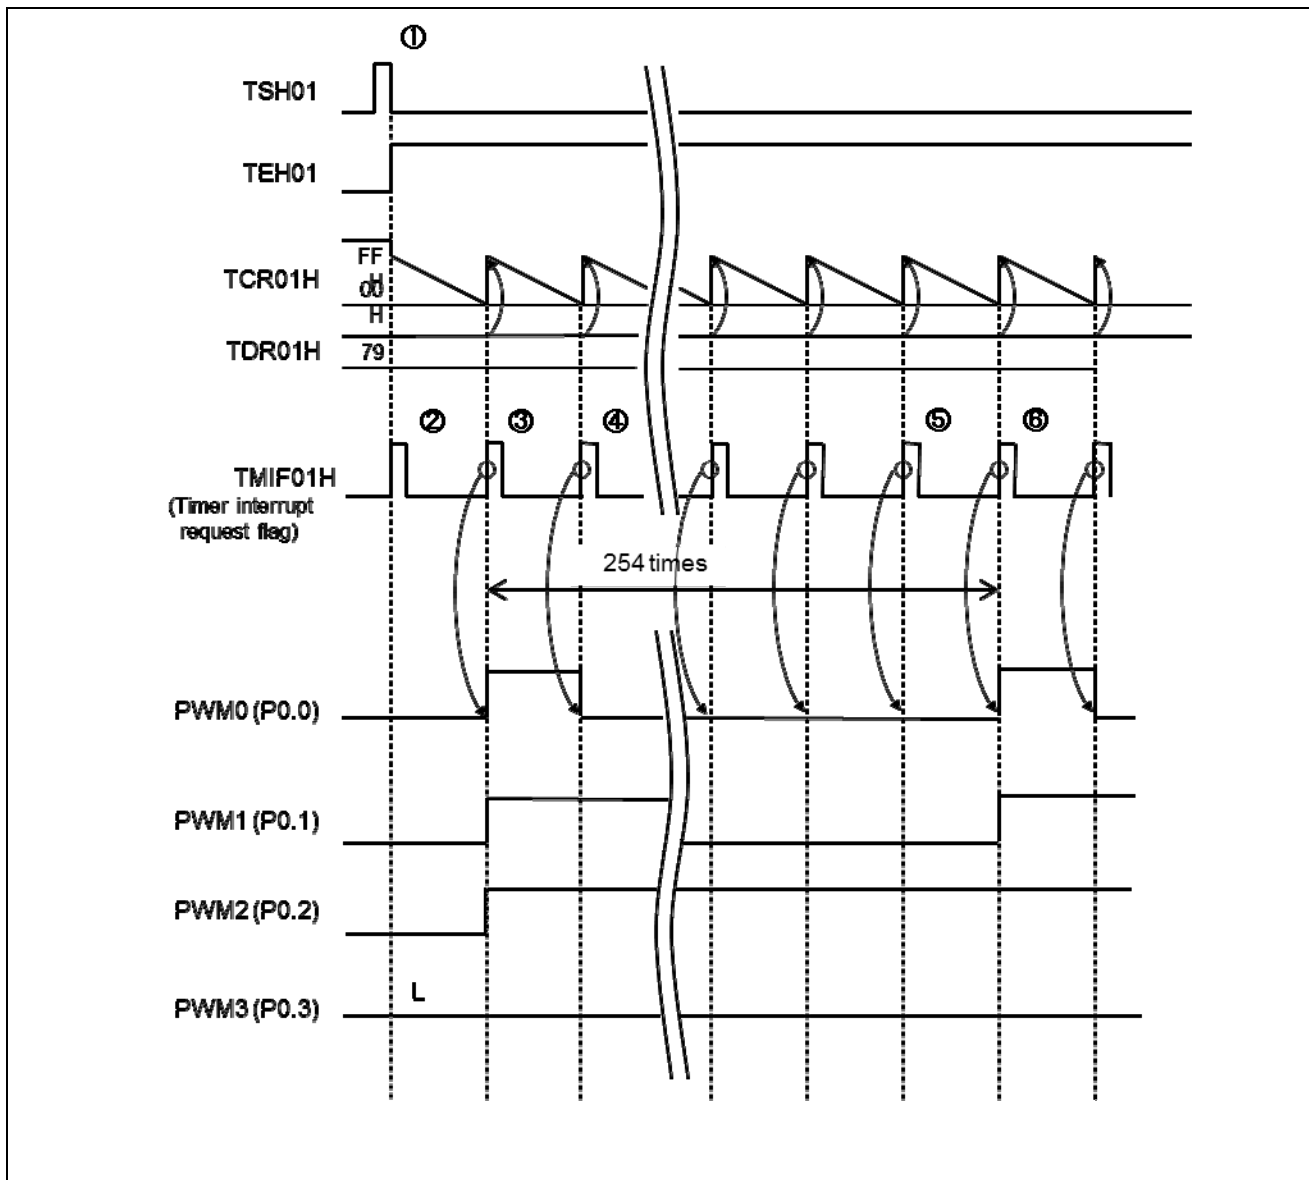

Figure 1.3 Multiplexed PWM Output Timing Chart
When switch input occurs, the next set of data is selected from the duty data and the same operation is repeated, allowing the PWM signal duty to be changed. Figure 1.3 provides the Multiplexed PWM Output Timing Chart.
- ① Set the initial value of the output data and start the timer (TAU channel 1). When the specified duty ratio is 0%, set 0 as the initial value and all other values to 1. (Fig. 1.3 shows an example of PWM3 as 0%).
- ② Interrupts occurring immediately after the timer is started are ignored, even if TAU channel 1 interrupt (INTTM01H) is generated. The CPU waits for the timer interrupt request in HALT mode.
- ③ When the TAU channel 1 interrupt (INTTM01H) is generated, the previously set initial values are output to the port, and operation is started. At this time, the duty specification counters for each PWM signal start to count down. When a value goes to 0, the next output data for the corresponding output is cleared to 0 (corresponding to PWM0). The counter that specifies the PWM signal period also counts down.
- ④ The next time the TAU channel 1 interrupt (INTTM01H) occurs, the next set of prepared data is output to the port. At this point, PWM0 output is 0. Both the counter that specifies the duty for the corresponding PWM signal and the counter that specifies the PWM signal period count down at this point as well.
- ⑤ At the 254th valid INTTM01H interrupt, the counter that specifies the PWM signal period counts down to 0 and the next data returns to the initial value. When duty ratio is 100%, output has not yet 0, and the value remains at 1.
- ⑥ Steps 3 to 5 are repeated.